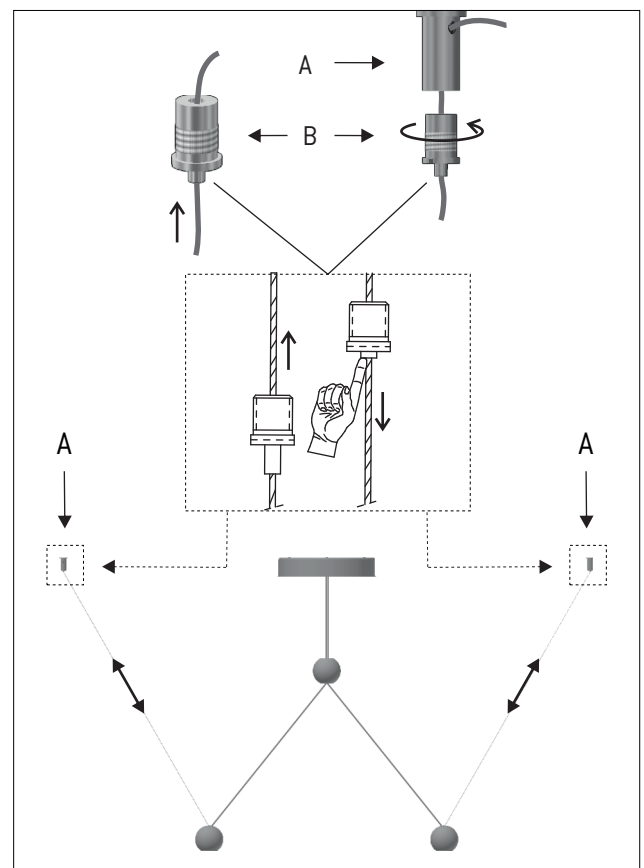

Figure 4
4 - Run the steel cable through the gripper support (B) and then insert it through the side hole of the tensor (A). Screw the gripper support back to the tensor and adjust the cable to the desired length. Figure 4.